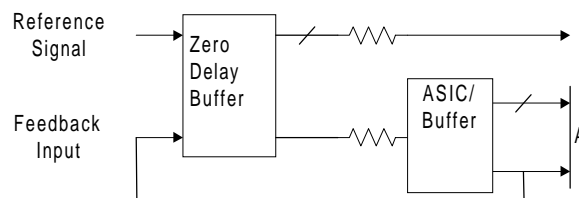

Figure 2. 6 Output Buffer in the Feedback Path
Referring to *Figure 2*, if the traces between the ASIC/Buffer and the destination of the clock signal(s) (A) are equal in length to the trace between the buffer and the FBIN pin, the signals at the destination(s) device will be driven HIGH at the same time the Reference clock provided to the ZDB goes HIGH. Synchronizing the other outputs of the ZDB to the outputs from the ASIC/Buffer is more complex however, as any propagation delay in the ASIC/Buffer must be accounted for.